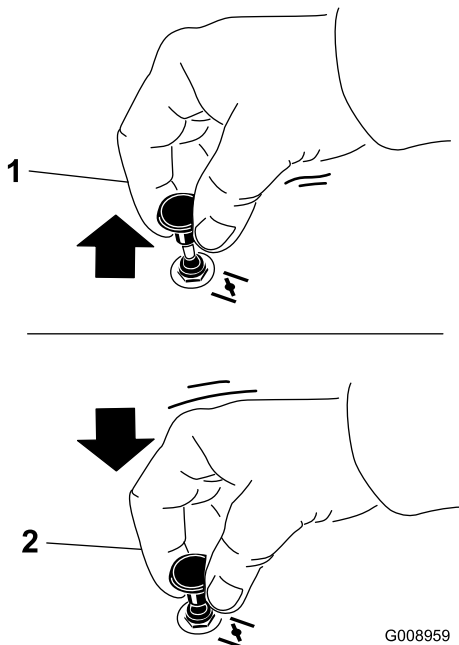

Figure 14
2. Pull up on the choke knob to engage the choke before using the ignition switch (Figure 14).
3. Push down on the choke to disengage the choke after the engine has started (Figure 14).